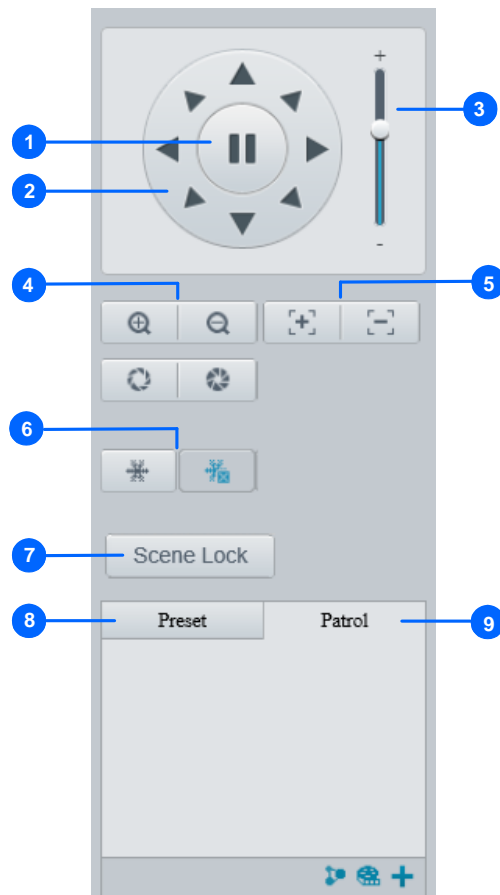

Figure 3-1
1. Select **Preset** (No.7, Figure 3-1) on the control panel, and adjust the dome view to the desired direction, zoom and focus.